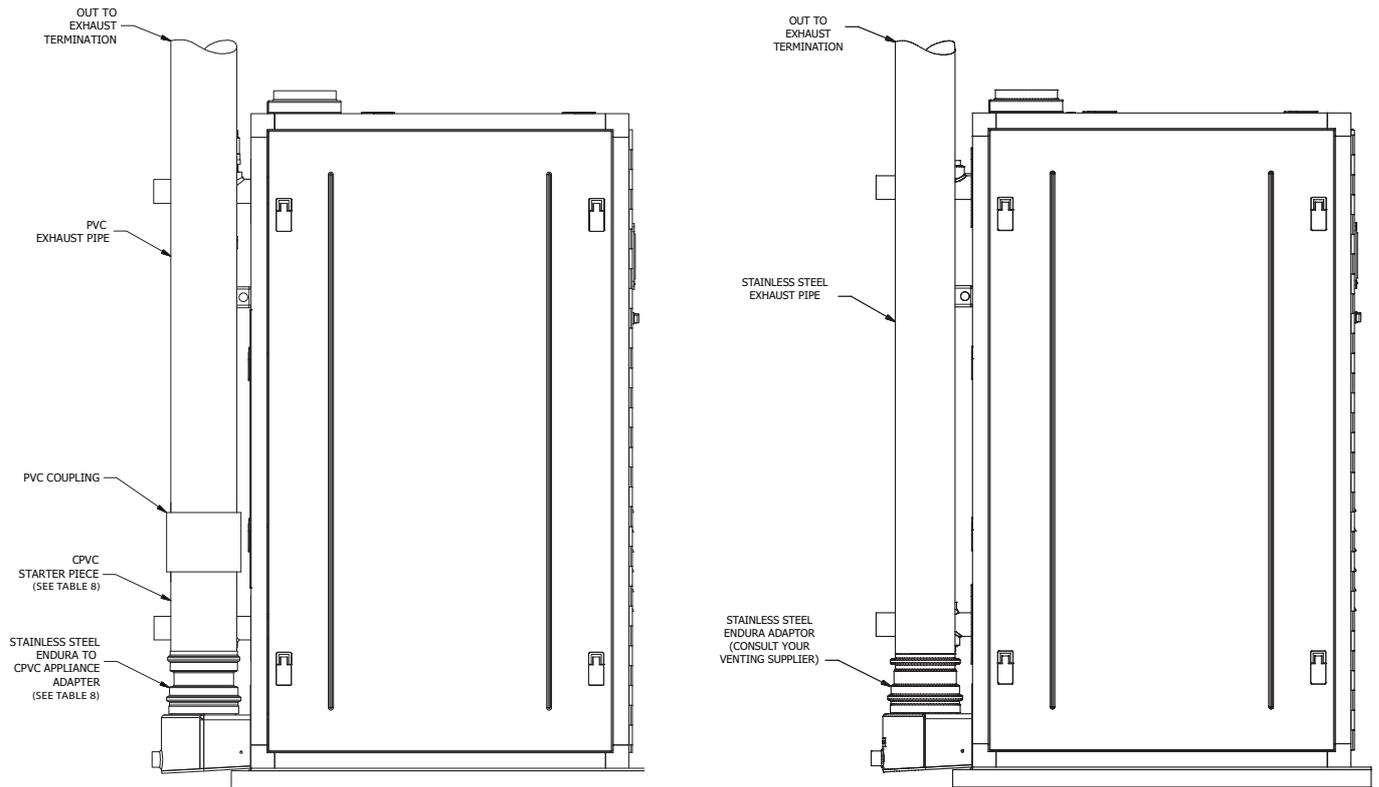

FIGURE 19 - ENDURA EXHAUST VENTING
2. Where allowed by the authority having jurisdiction (AHJ), the exhaust may be vented using Schedule 40 PVC, Schedule 40 CPVC, or Polypropylene listed and labeled to UL 1738 or ULC S636. If venting with Schedule 40 PVC, at minimum the first 8 inches of pipe must be Schedule 40 CPVC, see Figure 19 and Table 8. Do not insulate plastic exhaust vents. Canada only: Schedule 40 PVC, CPVC, or Polypropylene vent materials must be listed and labeled to ULC S636.
6. A stainless steel adapter (not supplied) specific to vent manufacturer type and material will be required. See Table 8 and Figure 19. Consult the venting supplier for guidance.